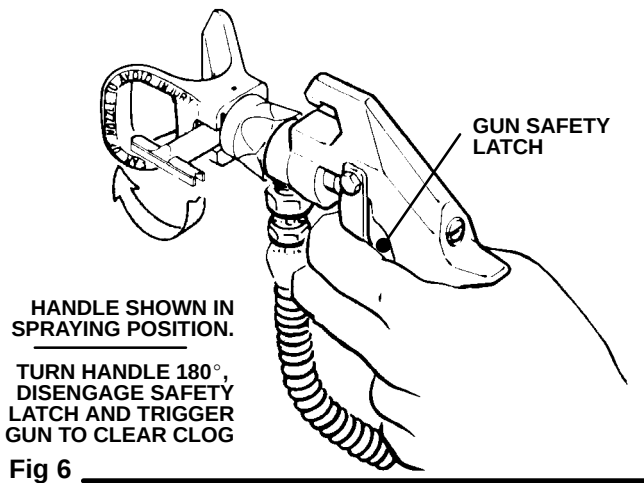

Fig 6
- 1 If the spray tip does clog, release the gun trigger, engage the gun safety latch, and rotate the RAC IV handle 180°. See Fig 6.